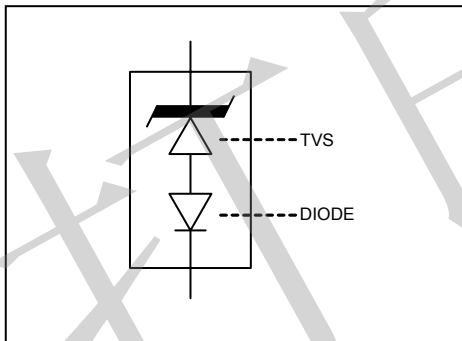
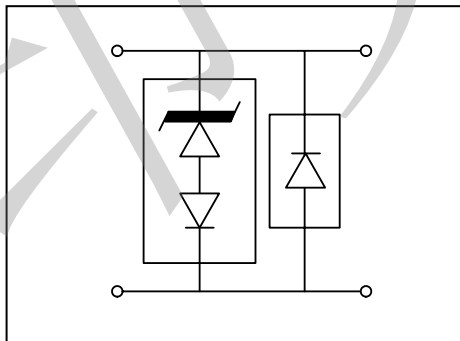

Fig.4 TVS with internal Low Capacitance Diode
Fig.5 Optional Unidirectional configuration (TVS and separate rectifier diode in parallel)
The TVS low capacitance device configuration is shown in Fig.4. As a further option for unidirectional applications, an additional low capacitance rectifier diode may be used in parallel in the same polarity direction as the TVS as shown in Fig.5. In applications where random high voltage transients occur, this will prevent reverse transients from damaging the internal low capacitance rectifier diode and also provide a low voltage conducting direction. The added rectifier diode should be of similar low capacitance and also have a higher reverse voltage rating than the TVS clamping voltage V_C . If using two (2) low capacitance TVS devices in also provided. The unidirectional and bidirectional configurations in Fig.5 and 6 will both in twice the capacitance of Fig.4